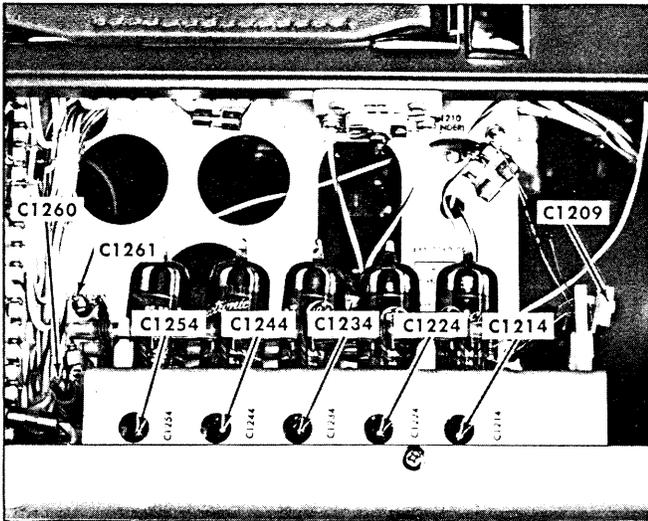

Fig. 6-40. Location of C1214 through C1254.
f. Starting with C1214, adjust C1214 through C1254 (Fig. 6-40) for optimum waveform flat top and minimum aberration.
g. Adjust C1260 and C1261 (Fig. 6-40) for optimum front corner and minimum aberration. Ringing may occur if these capacitors are not adjusted near capacity.